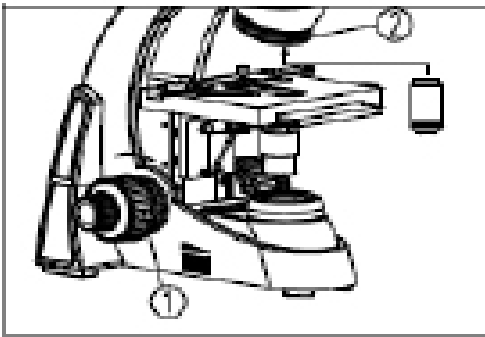

Fig. 3
1. Rotate the coarse focusing knob (1) to lower the stage to a suitable location (See Fig.3).